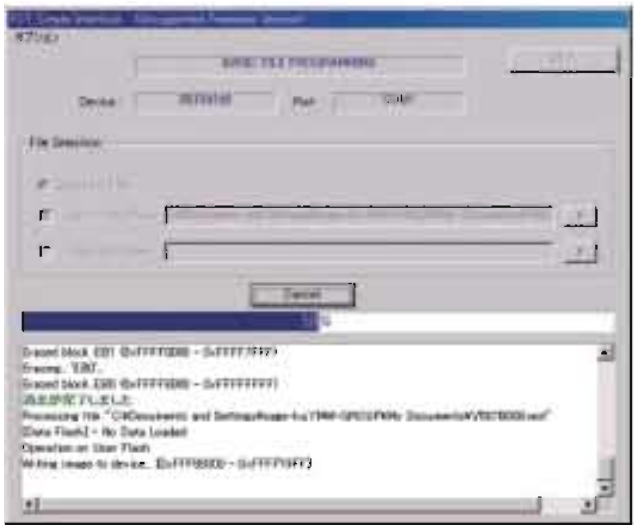

Fig. 11
11. Click [Program Flash] to start writing. (Fig. 11)
(Fig. 11)